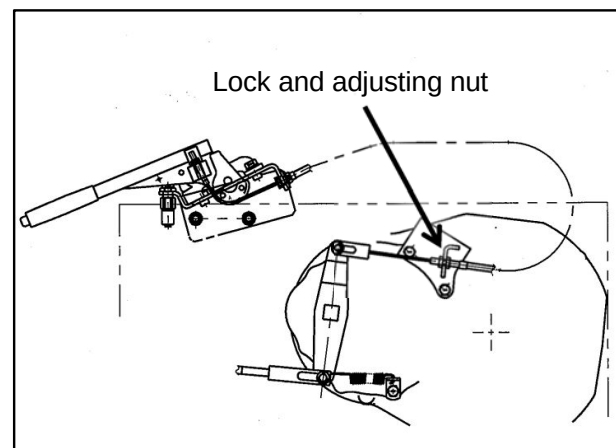

Figure 3-50a
2. Release the parking brake lever, Adjust the lock and adjusting nut in Figure 3-50a, so that both rear wheels are locked when the parking brake lever is applied 3-4 notches on the ratchet.